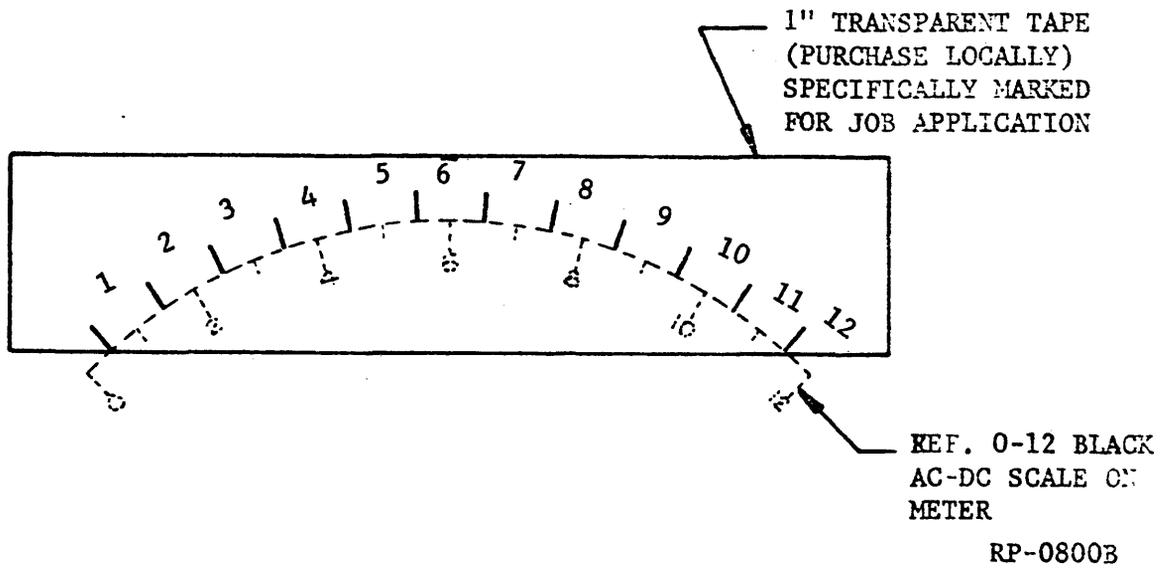

FIGURE 1
2.211 If found to be necessary, a special wire identification scale may be made by taping a 1 inch transparent cellophane tape across the face of the ITE-4442A VOM as per Figure 1. This tape can be marked with a grease pencil and easily changed to identify specific leads. Be sure to remove the tape after testing.